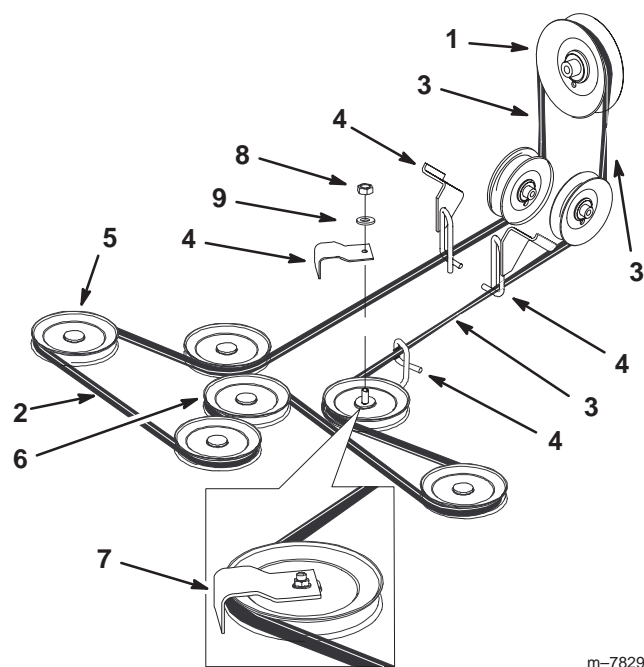

Figure 67
- Remove the nut, washer and belt guide from the rear leftside pulley (Fig. 67).
- Remove the mower belt from the belt guides and remove the belt (Fig. 67).
- Install the new mower belt around the mower spindle pulleys, mower idler pulley, into the belt guides, into rear idler arm assembly, and the clutch (Fig. 67).
8. Install the belt guide with a washer and nut onto the rear leftside pulley (Fig. 67).
Important Check the amount of twist in the belt between the pulleys. Make sure it is only what is specified in Figure 67.